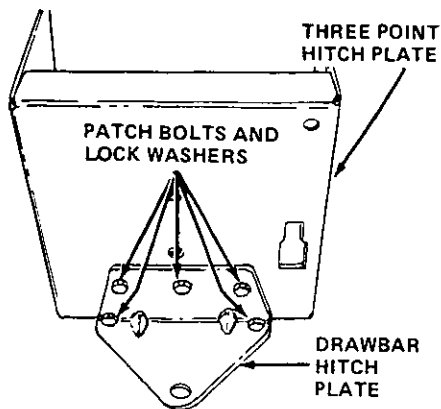

FIGURE 13
- Using the patch bolts and lock washers removed in the previous step mount the drawbar hitch plate to the three point hitch plate assembly. See figure 13.